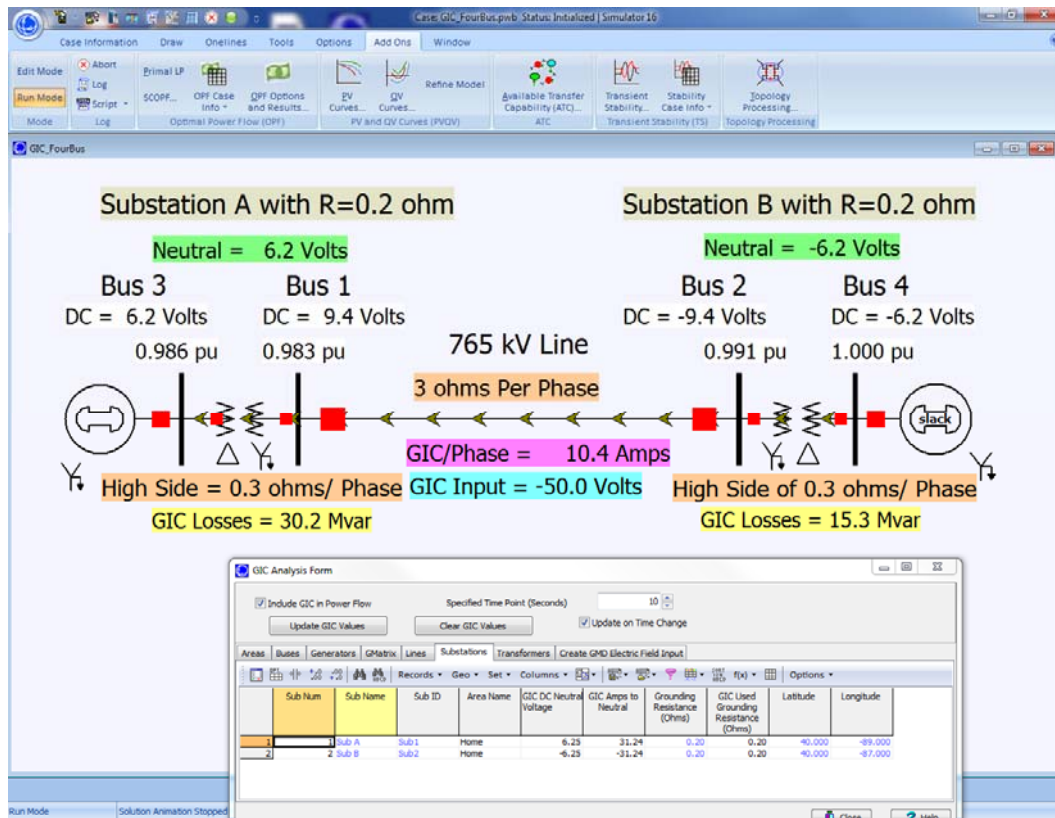
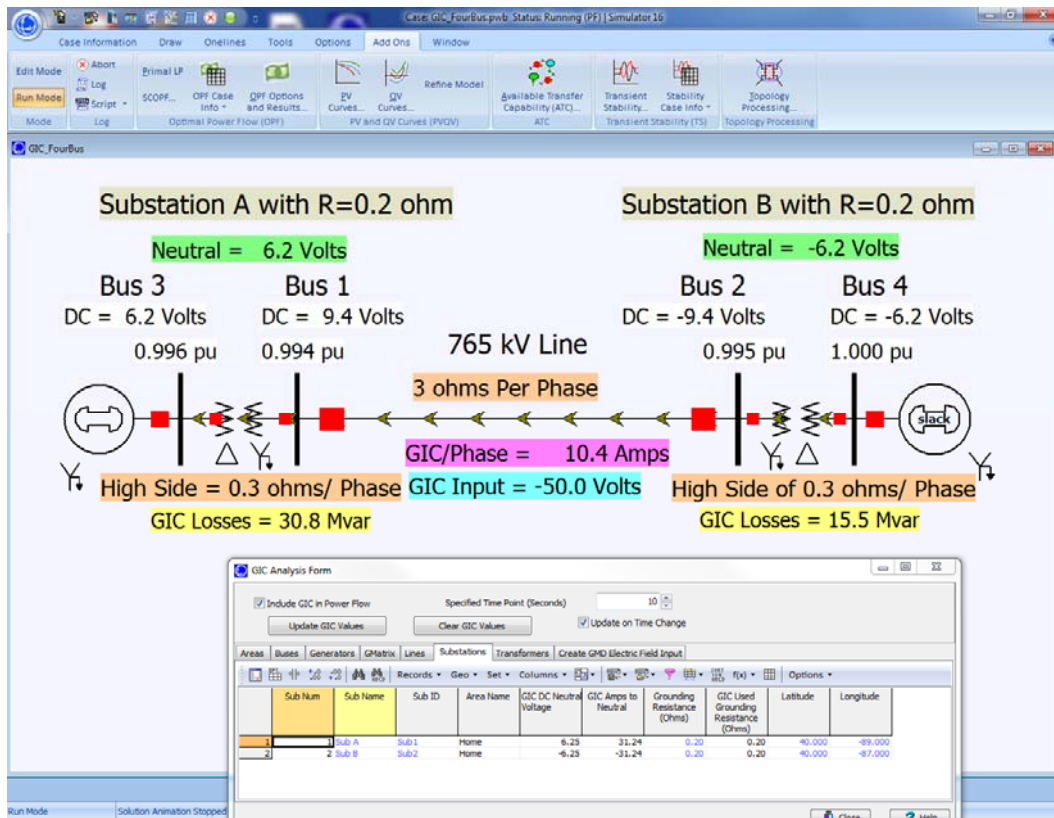
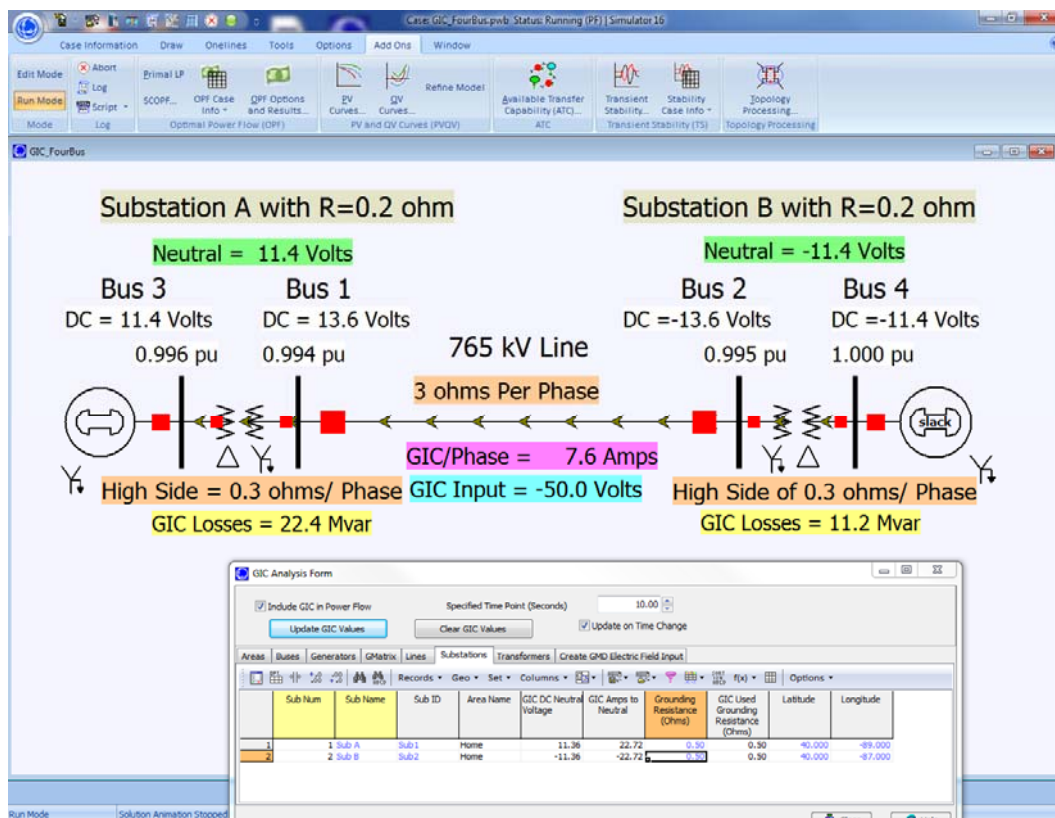

Figure 4: Variation in GIC Values by Changing Specified Time Point
Figure 5: New GIC Values Included in Power Flow Solution
Figure 8: GIC Values with Modified Substation Grounding Resistance
As an example of using this form, open the GIC_FourBus case, which contains the four bus system considered previously and open the **GIC Analysis Form**. The case models the GMD-induced voltage on the line between Buses 1 and 2 using two time points. The first point (at zero seconds) has zero voltage, while the second point (at 30 seconds) has -150 volts (positive numbers indicate a positive dc polarity towards the To bus [Bus 2 for this line], while negative numbers mean a positive polarity towards the From bus [Bus 1]). Then, making sure that the **Update on Time Change** box is checked, gradually decrease the time by clicking on the down arrow next to the **Specified Time Point (Seconds)** field (the default is to change 5 seconds per click). Notice that this updates the GIC fields on the one-line (shown in Figure 4 for ten seconds = -50 volts) but does NOT change the power flow solution. To resolve the power flow, including the impact of the GIC values, make sure that the **Include GIC in Power Flow** box is checked, then solve the power flow using the standard procedure (for example by clicking on the “calculator” button in the Quick Access Toolbar). The results for ten seconds are shown in Figure 5. Notice the change in the ac per unit (pu) voltages. The GIC losses also change slightly since they are modeled as shunt reactances.
Next, to see an example of changing system parameters, with the time still set at 10 seconds, select the Substation tab. This page displays GIC related information for each of the substations in the case. As shown in the lower portion of Figure 5 the page shows the substation dc neutral voltage, the total three phase amps flowing into the substation neutral, the inputted substation ground resistance, the grounding actually used, and the substation latitude and longitude. If the inputted substation grounding resistance is not zero then that value is used; otherwise the value is estimated. For this example, change the inputted value for both substations from 0.2Ω to 0.5Ω , and then click **Update GIC Values**. The anticipated three phase flow is given (2), while the per phase flow is shown in **Figure 8**.